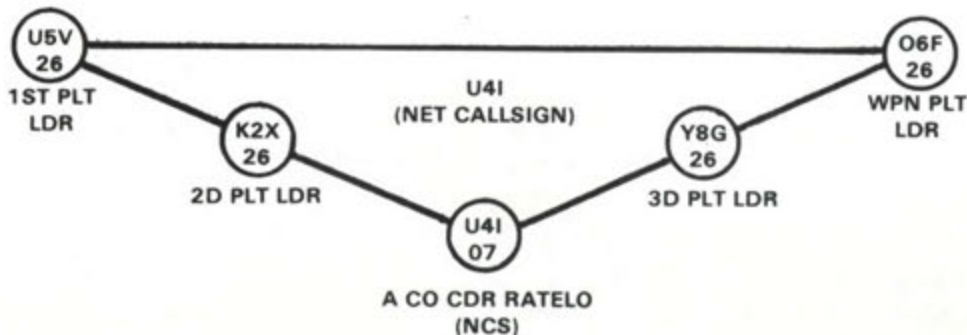

Figure 1.
- Identify the net structure and determine the answering sequence, and make the appropriate response to the individual stations (figure 1).